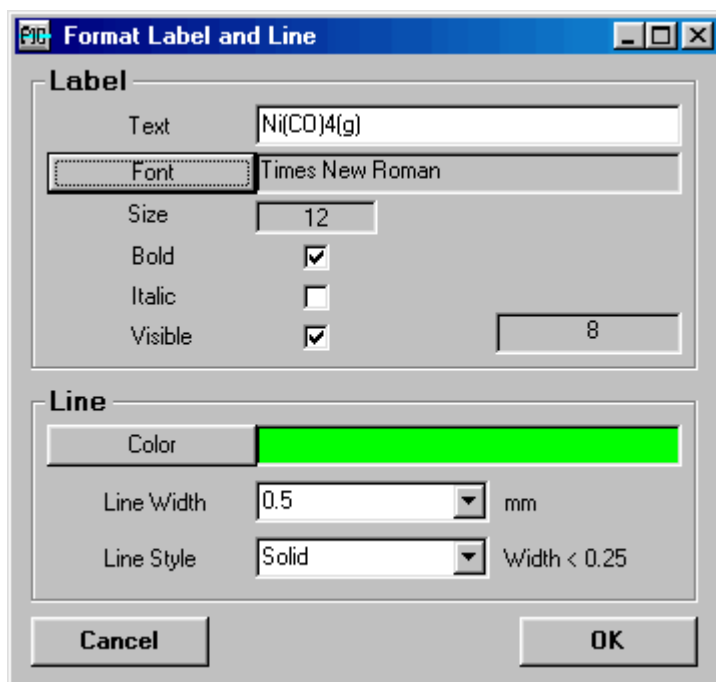

Fig. 13. Changing label and line specifications.
2. The **line width** of curves, species label font, etc. may be changed by double clicking the species labels or selecting the label with mouse and selecting **Format Label** from the menu. You cannot do this by double clicking the line. The label and curve editing window is shown in Fig. 13. Note that other line styles than solid are available only for line widths smaller than 0.3 mm.